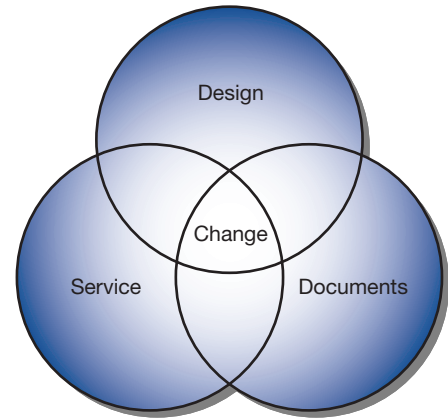

Figure 3.10 The one thing all design professionals produce is change. Today, they do so in the midst of unprecedented and enormous industry transformation.
**JH:** A lot is determined by the size of the architectural firm that the professional works in. If they're in large firms, they get training along the way, incentives to attend seminars and stay abreast of things. Others see it as learn or get out, and still others as—"I just want to move into management. I don't have to know all this technology! All I need is some young neophytes who do. I'll manage them. I'll be the project manager. I'll be the rainmaker and will let the young guns do the grunt work." They see learning the technology as a big hassle to learn all that software. When in fact many of these architects in their fifties and sixties, when they were in their forties dealt with CAD. My first CAD manual was 1,200 pages. It was so daunting and intimidating—to draw two lines that crossed took forty-two different keystrokes—these professionals told themselves that they'd never learn CAD. Then as CAD became more user-friendly, many were so turned off by the experience that they said the hell with it and continued with paper and pencil. It's not a factor of age. I've worked with architects in their sixties who are very sharp when it comes to technology. What will be interesting will be to see how many professors stay on top of the technology—as compared with students. For example, at New Trier High School in Winnetka, Illinois, they have architectural software and machinery that few architectural firms have. (See Figure 3.10.)